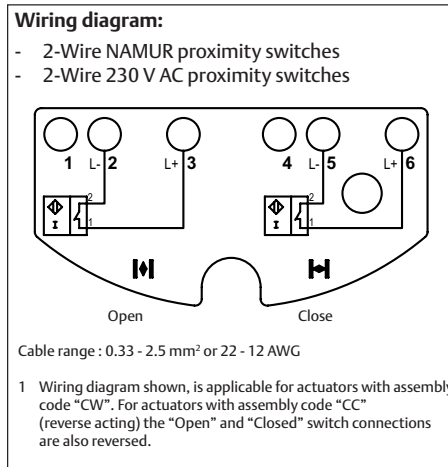

Fig 4.11 Wiring diagram 2-Wire proximity switches.
- Make connections as shown in Figure 4.11 and Table 4.5 or 4.6.